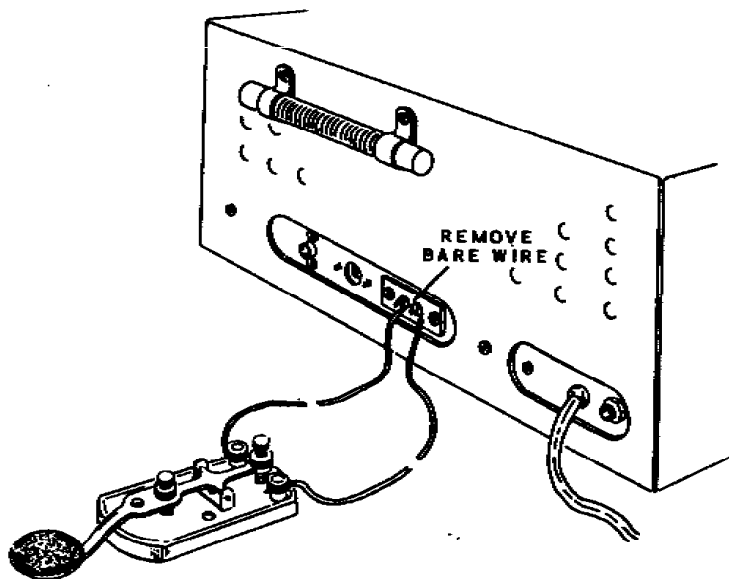

Figure 5
- () Connect a **CW** key to the terminal strip as shown in **Figure 5**. Press the key down and tune in a weak **AM** station.